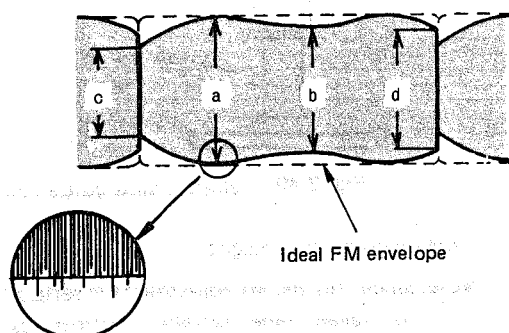

Fig. 2-42 FM waveform (max. output)
4. As shown in Fig. 2-42, read the maximum FM level (a) and minimum FM level (b), then confirm that: